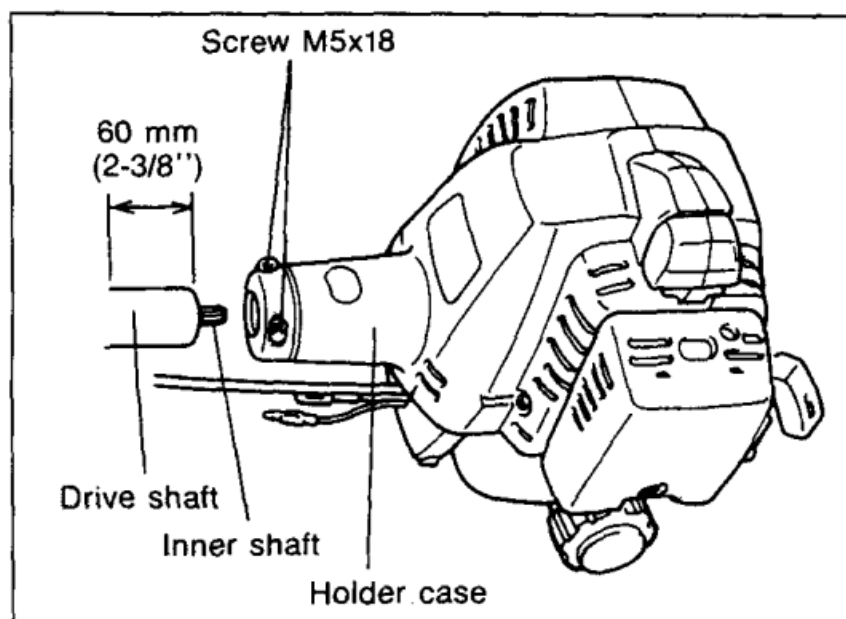

Fig. 16
1. Loosen the screws M5x18 and insert the drive shaft into the holder case (Fig. 16).